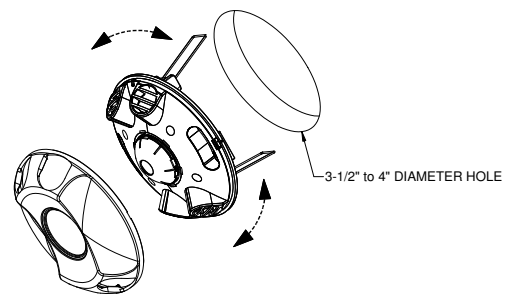

Figure 4
Option 1 - Spring Mounting (see Figure 4)
3. Slowly push up the sensor allowing the springs to grab the inside of the hole securing it to the ceiling. Refer to Figure 4.